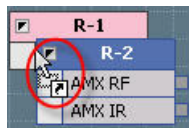

FIG. 134 Replacing a Remote
2. When the replacement Remote is positioned correctly to replace the existing one, the Replace icon is displayed on the cursor (FIG. 134):